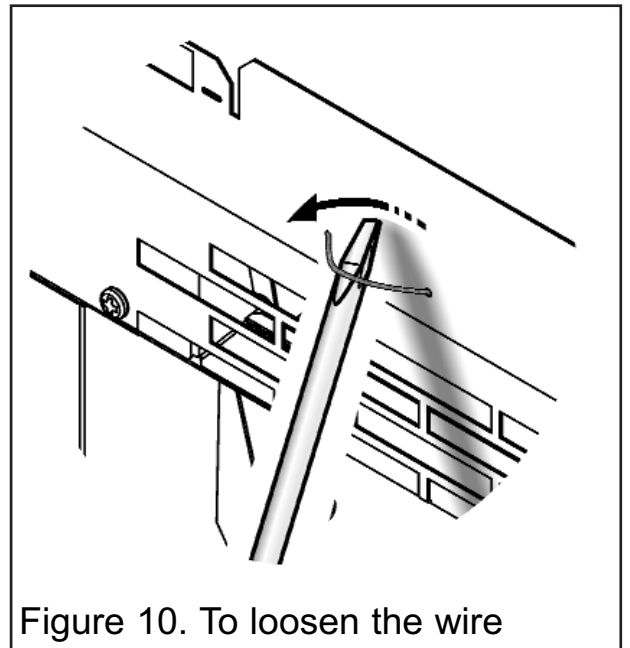

Figure 10. To loosen the wire
2. The firefront is held in place with a single wire. It will be necessary to loosen and remove the wire at one side. Do this by placing a flat ended screw driver or similar tool behind the wire loop on the front of the firefront (See figure 10). Push the wire loop towards the outer hole and pull on the wire where it passes through an outer hole in the firefront. The wire should become loose and can then be pulled from the outer hole. With the end of the wire free, gently pull the firefront forward.